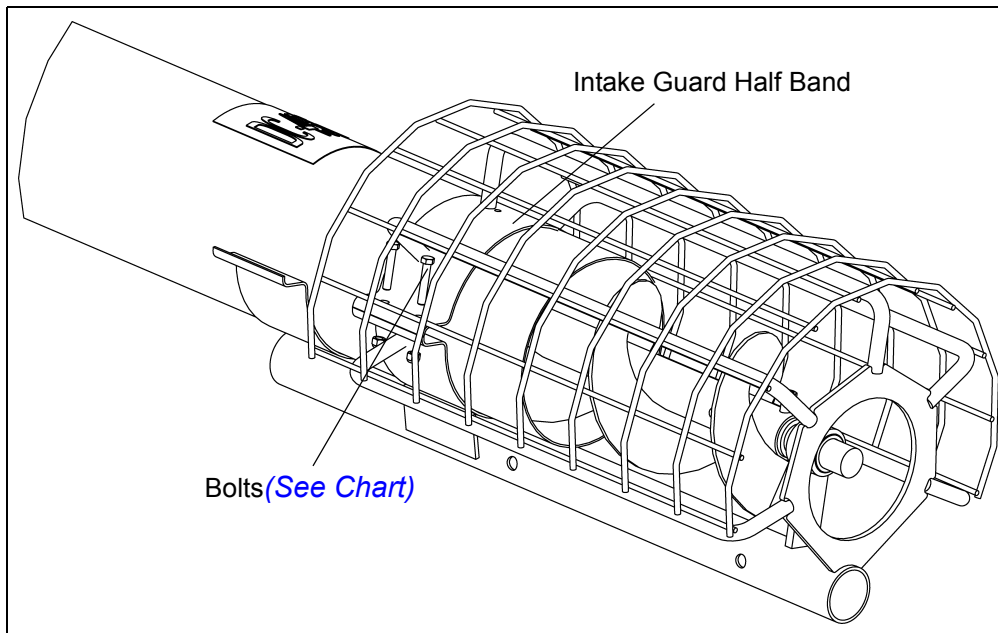

Figure 4I
3. Attach the Intake Guard to the Tube using the proper hex bolts and Nylock nuts through the half bands that are welded to the Intake Guard (See Chart) and (Figure 4I).